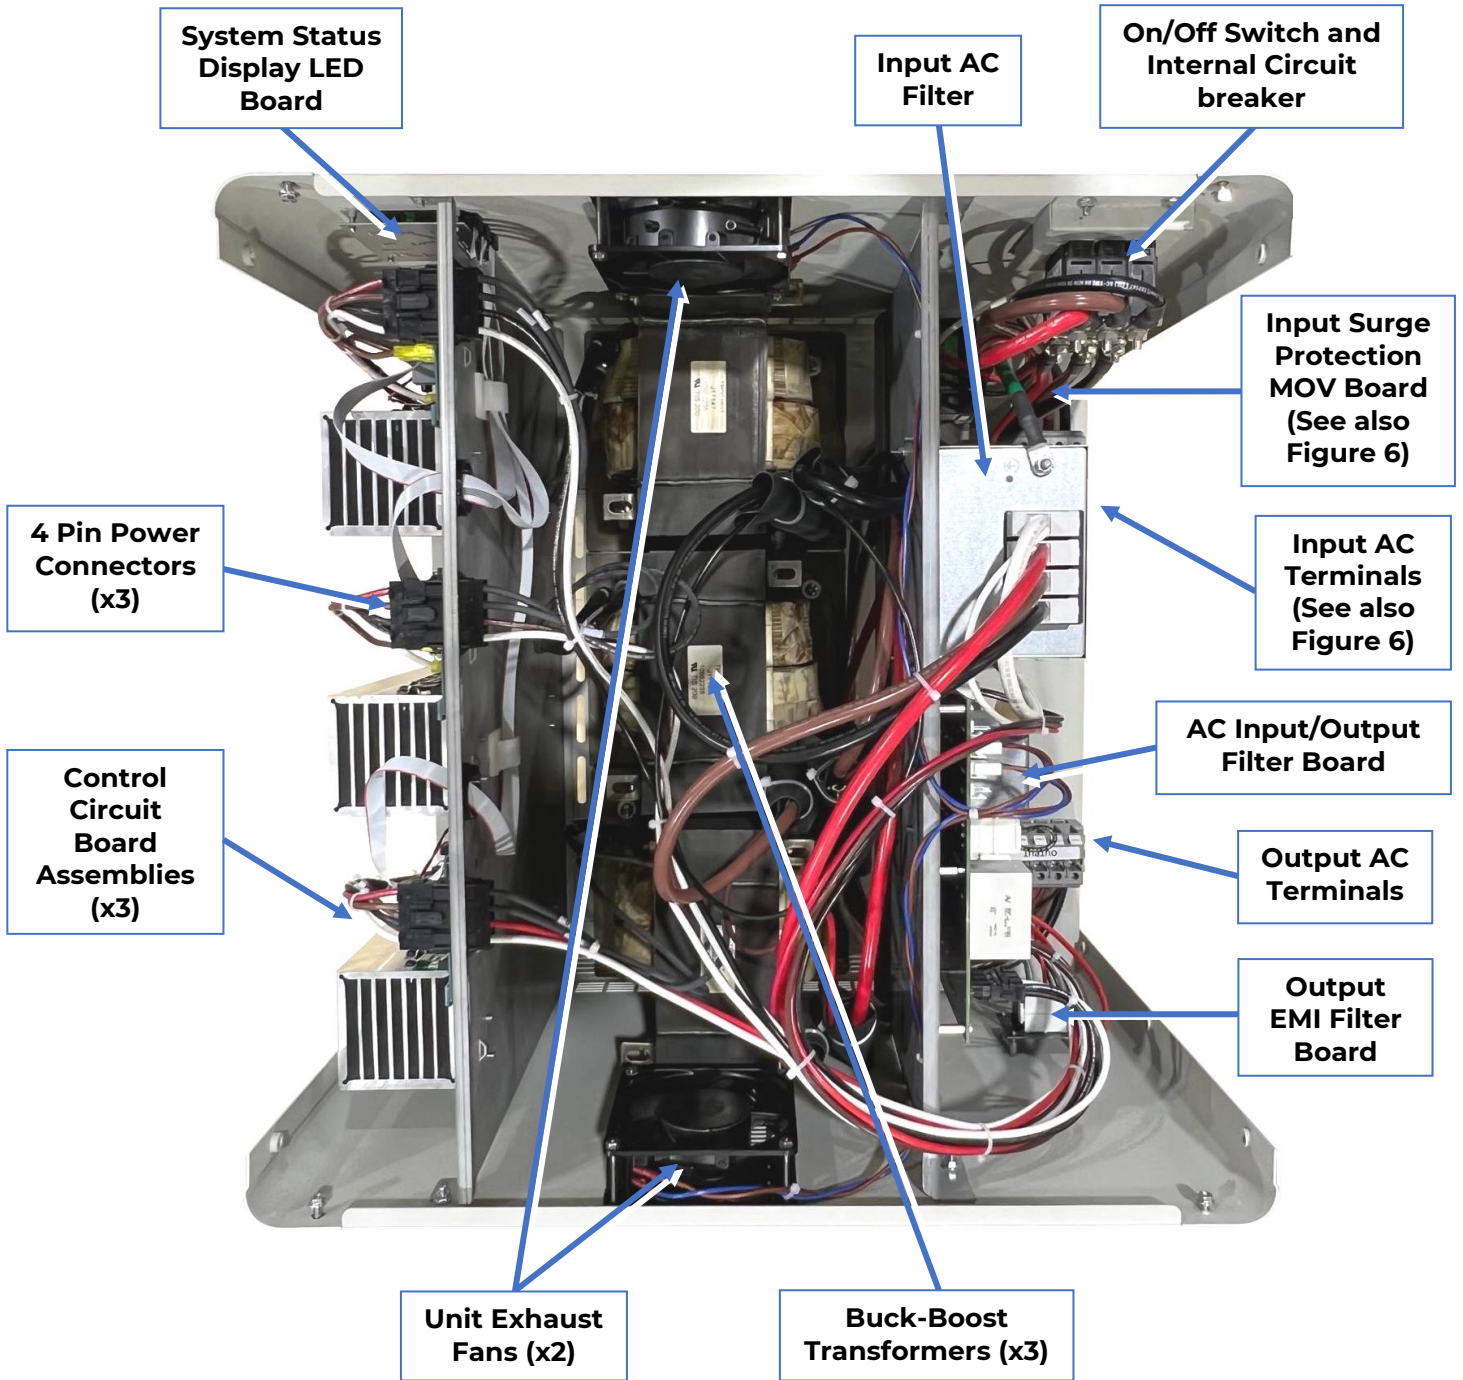

Figure 4: Top View of Large Unit (24in. Cube) with Covers Removed
1.6 VRP ENCLOSURE TOP VIEW WITH COVERS REMOVED -See Figures 4 and 5